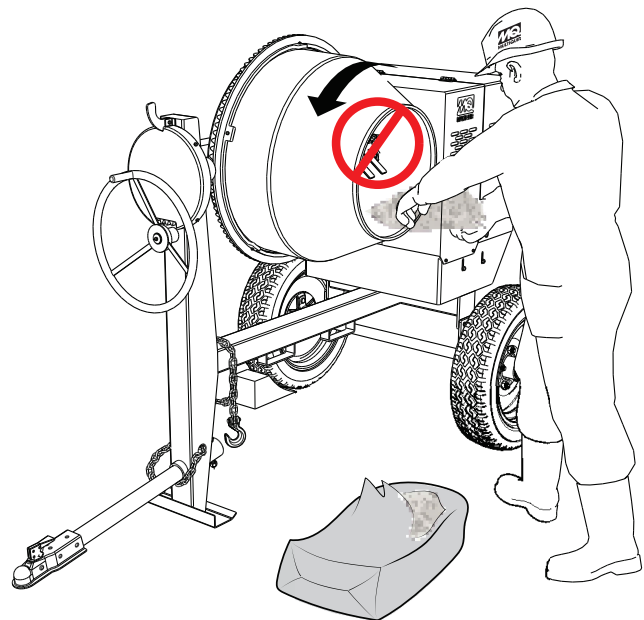

Figure 25. Filling Mixing Drum (WRONG)
3. Placing the shovel all the way inside the drum (Figure 25) will cause the shovel to strike the blades. This condition will make the shovel rotate, and could cause injury to personnel. **NEVER** place hands inside the mixing drum while it is rotating.